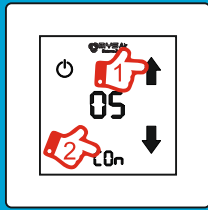

Fig. 8
- 2) Select "05" with the **↓↑** icons (Fig. 8). Press again on the **CO_n** icon to confirm (Fig.8).